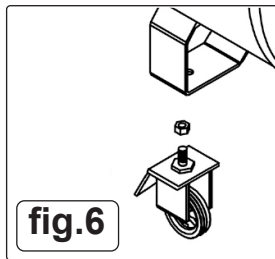

fig.6
4.3.1. Repeat process as above using castor wheel set Part no/ SAC10001S-72. Fig.6